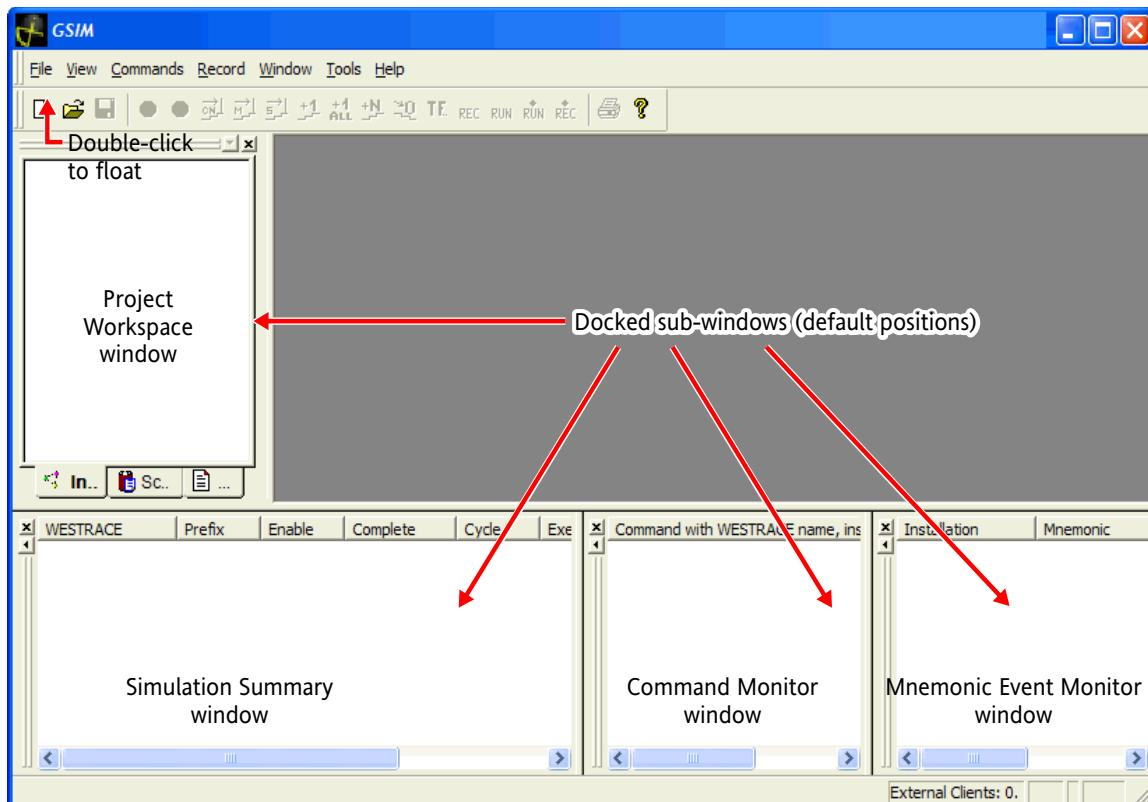

Figure 3.1 GSIM main window and sub-windows (without an open project)
Figure 3.1 shows the GSIM main window (without an open project). The main window is the working area of the GSIM application and can contain two types of sub-windows:
- docking windows (such as the sub-windows shown in figure 3.1);